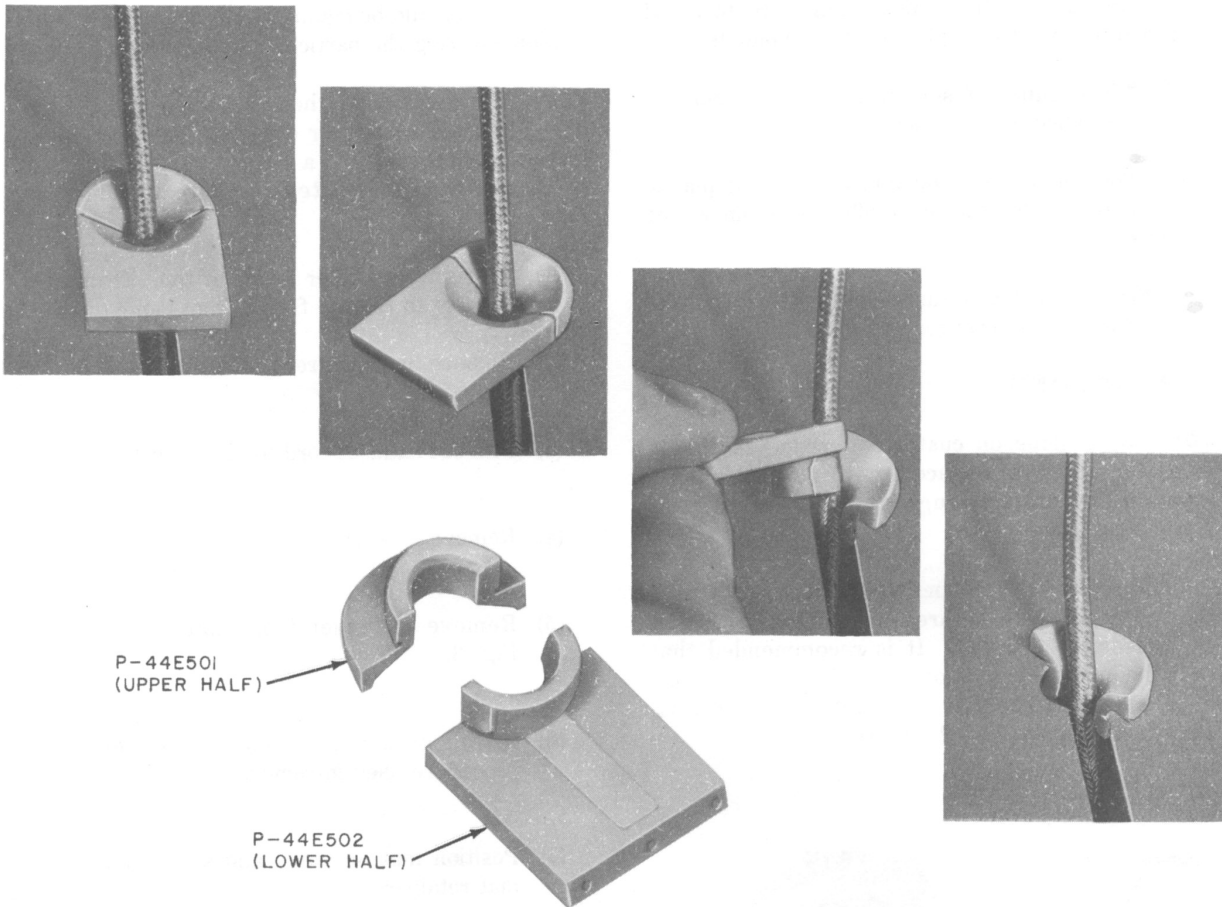

Fig. 3—Removal of Handset Cord Grommet
- (1) Grasp mat retainer frame at top, lift upward and out to release frame from panel of set.
- (2) Remove handset from hook of set.
- (3) Pull out handset cord to allow working slack.
- (4) Remove mat from face of panel.
- (5) Remove grommet from mat as shown in Fig. 3.
- (6) Install grommet in new mat by reversing procedure used in removal.
- (7) Position mat on panel and secure using the mat retainer frame.